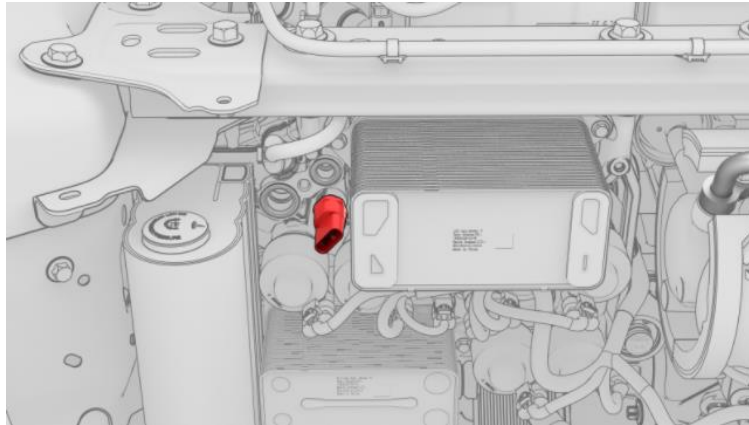

Figure 7
9. Use the HVAC socket kit special tool to remove the high pressure P/T sensor from the Supermanifold (Figure 7).
14. Hand-install the new high pressure P/T sensor (black connector) into the Supermanifold, and then use the HVAC socket kit special tool to tighten (torque 9 Nm) (Figure 7).